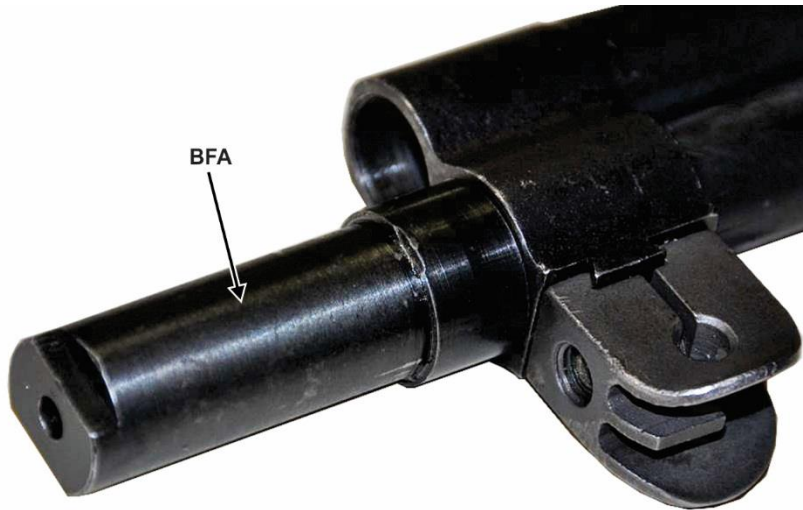

Figure 34. BFA installation
- 4) Screw the BFA onto the barrel until it touches the gas cylinder (fig 34).